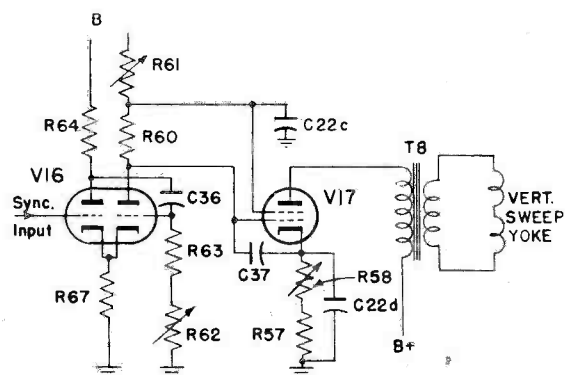

Fig. 7. Vertical Sweep Output
7. VERTICAL MULTIVIBRATOR AND SWEEP OUTPUT (See Figure 7)—The vertical sawtooth voltage is generated by a Type 6SN7GT tube, V16, connected as a multivibrator. This voltage is coupled directly to a Type 6V6G vertical sweep output tube, V17, and then to the vertical sweep yoke through the impedance matching transformer, T8. Vertical speed is controlled by changing the time constant of the multivibrator grid circuit by the potentiometer, R62. Sweep size is changed by the potentiometer, R61, which changes the B+ voltage applied to the charging network of tube V16 simultaneously with the screen voltage on tube V17. Vertical linearity is controlled by feeding back voltage through C37 from the cathode to grid of the output tube. The amount of the voltage is varied by the variable cathode resistor, R58.